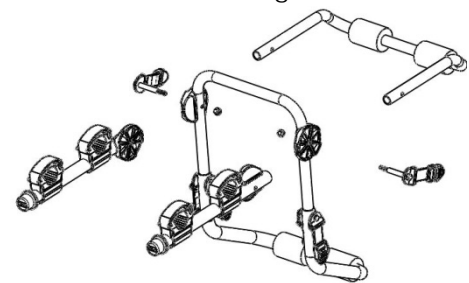

Fig. 3
- A. Attach each Inner Support (marked with a "B") to middle support tube as shown with through holes lined up. (Fig. 3). Attach the outer supports (marked with an "A") to each Support Arm. Slide Top Support into one of the Support Arms so that the through holes are aligned. Slide Buckle Assembly onto the 5/16"-18 Hex Head Cap Screw (larger screw) and insert the screw through the through hole in the Support Arm Frame, Supports and the top Main Frame hole. (Fig. 3/4) Repeat for other side. (Fig. 3/4)